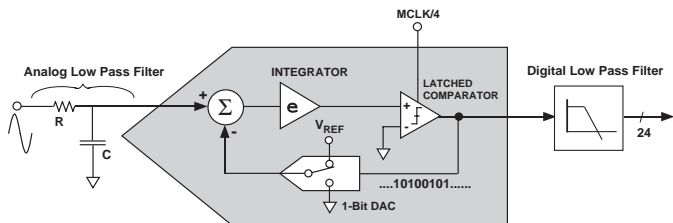

Figure 17- First Order Sigma-Delta ( $\Sigma$ - $\Delta$ ) ADC
The analog-to-digital conversion in the ADE7753 is carried out using two second order sigma-delta ADCs. For simplicity reason, the block diagram in Figure 17 shows a first order sigma-delta ADC. The converter is made up of two parts: the sigma-delta modulator and the digital low pass filter.
Figure 17 also shows an analog low pass filter (RC) on the input to the modulator. This filter is present to prevent aliasing. Aliasing is an artifact of all sampled systems. Basically it means that frequency components in the input signal to the ADC which are higher than half the sampling rate of the ADC will appear in the sampled signal at a